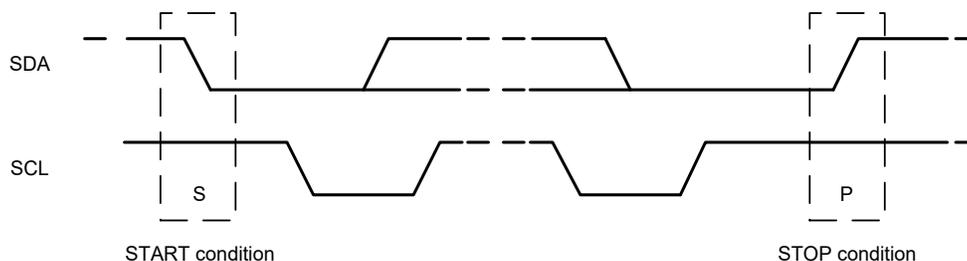

Figure 9. START and STOP Conditions
Communication on the I²C bus starts when the master puts the START condition (S) on the bus, which is defined as a HIGH-to-LOW transition of the SDA line while SCL line is HIGH (see figure below). The bus is considered to be busy until the master puts a STOP condition (P) on the bus, which is defined as a LOW to HIGH transition on the SDA line while SCL is HIGH (see Figure 9).